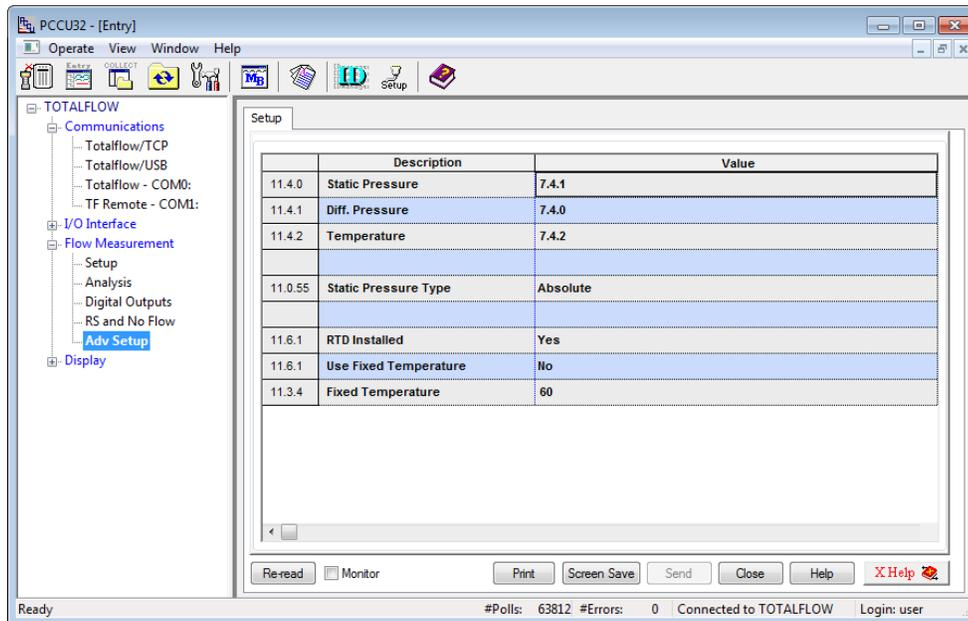

Figure 33: Measurement Adv Setup tab
- In the navigation tree, click **Flow Measurement > Adv Setup** (Figure 33).